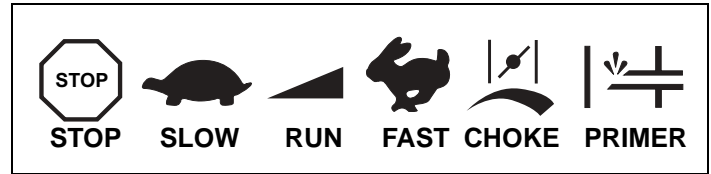

Figure 16. Typical Engine Symbols
- Move equipment control (see equipment manufacturer's instructions) or engine throttle control to "FAST" position, if present. See Figure 16.
3. Move equipment control (see manufacturer's instructions) or engine throttle control to "FAST" position. See Figure 16 on page 8. Afterward, continue reading instructions below.